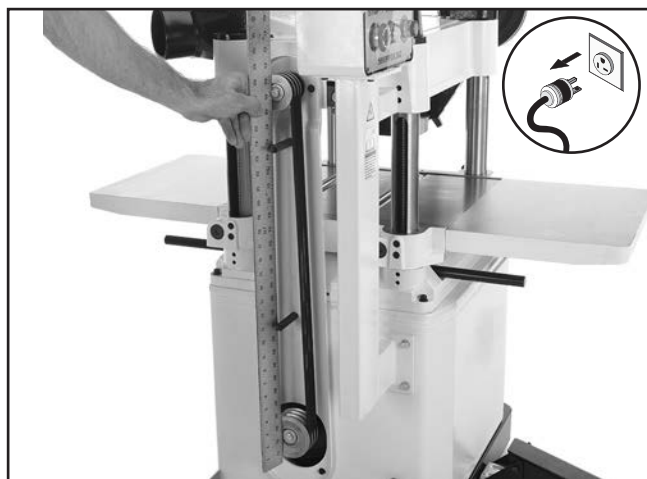

Figure 71. Checking pulley alignment.
2. Remove both cabinet covers and belt cover, then use straightedge to check pulley alignment, as shown in **Figure 71**.